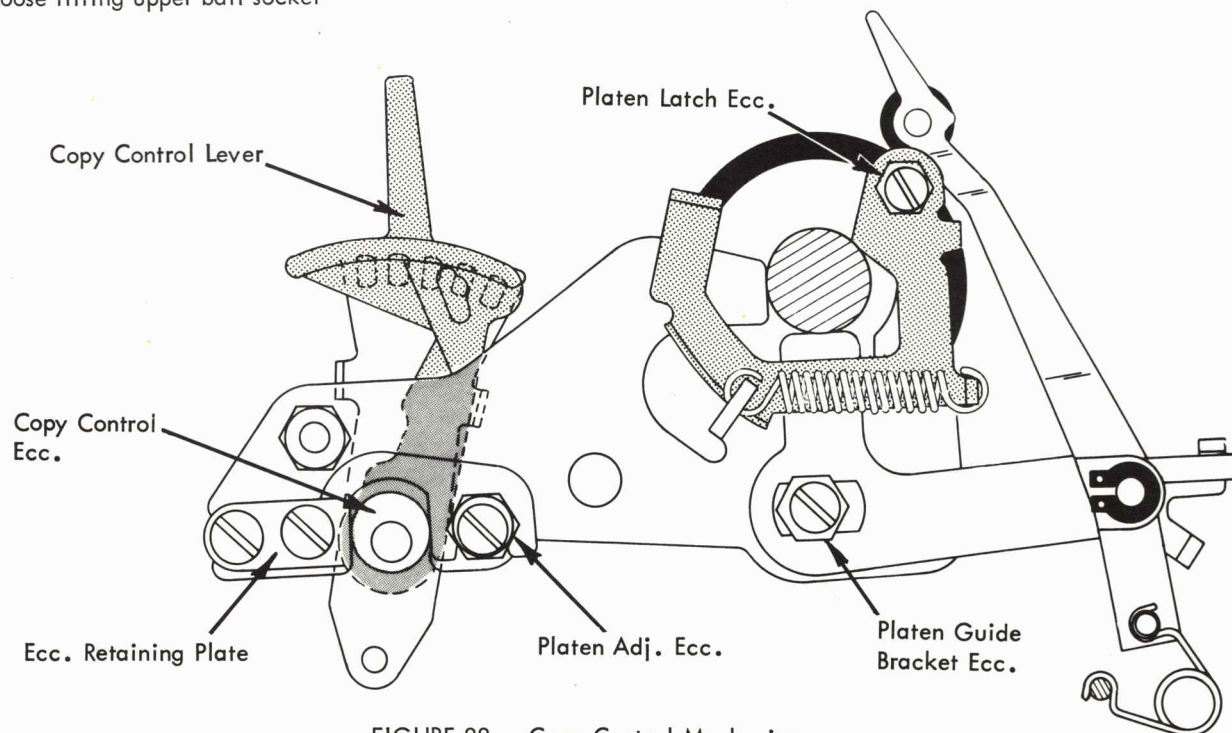
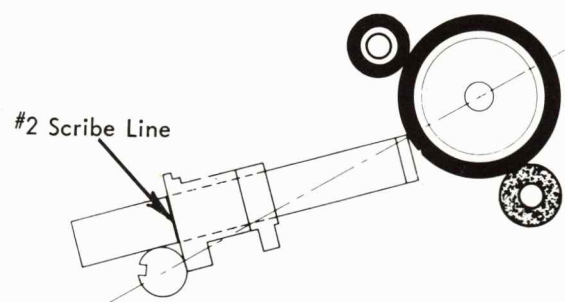

FIGURE 88. Copy Control Mechanism
FIGURE 90. Front to Rear Platen Adjustment
- Copy Control Lever - With the copy control lever detented in the forward position, the high points of the eccentrics should be vertical (Fig. 88). Adjust the copy control lever on the shaft to satisfy this condition.
2. Eccentric Retaining Plates - For maximum efficiency of the copy control eccentrics, adjust the plate on each side of the machine so that no front to rear play exists between the eccentrics and the retaining plates (Fig. 88). Be sure that no binds exist.
3. Platen Latches - Adjust the platen latch eccentrics with the high part down so that the platen is held firmly in position vertically and horizontally (Fig. 88). The latches should latch and unlatch freely with the feed rolls released.
Adjust the platen guide bracket eccentrics to obtain this condition (Fig. 88). The high part of the eccentrics should be kept to the rear. It is necessary to remove the deflector and front feed rolls when checking the adjustment with the Hoovermeter.
- b. Platen Front to Rear - With the head of the Hoovermeter set at the #2 scribe line, the tool should just span the distance between the platen and the print shaft as illustrated in Fig. 90. Adjust the platen adjusting eccentrics to obtain this condition (Fig. 88).